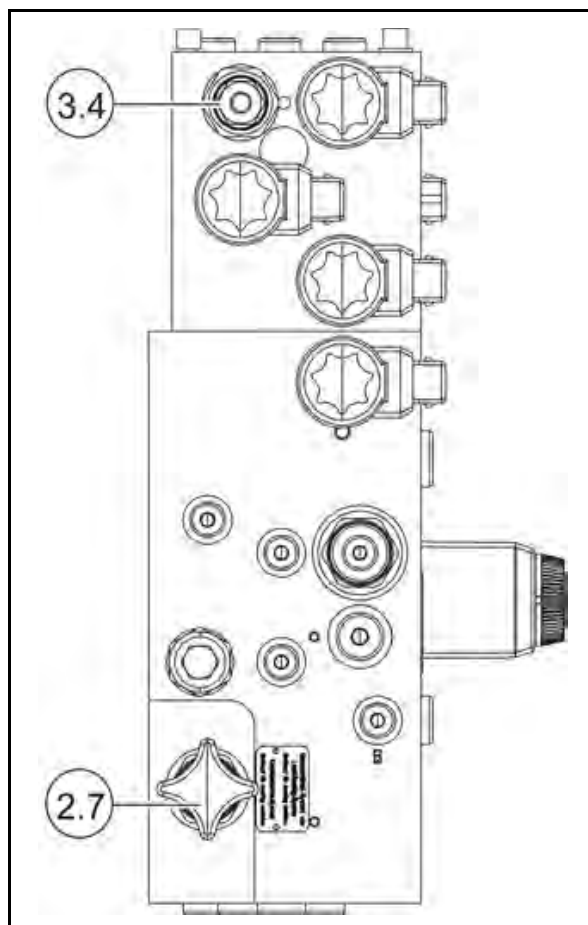

Fig. 34
- 2.1 Screw load-sensing screw (Fig. 34/2.7) in as far as it will go.
3. Connect the load-sensing control line (2) to the load-sensing connector of the tractor.
4. Connect the hydraulic connector "Reverse line" (4) to a free reverse port of the tractor.
5. Connect the hydraulic connector "Flow line" (5) directly to the tractor's hydraulic pump.
Open the pressure regulator via the load-sensing screw (Fig. 34/2.7) in the electro-hydraulic control block, when the hydraulic connector "Flow line" has been connected to the control device of the tractor.